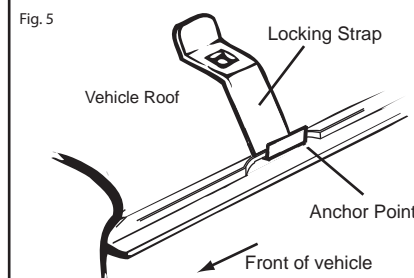

Fig. 6
6. Place the Rubber Pad onto the vehicle roof so that the cut out section fits under the Retaining Strap. (Fig.6)